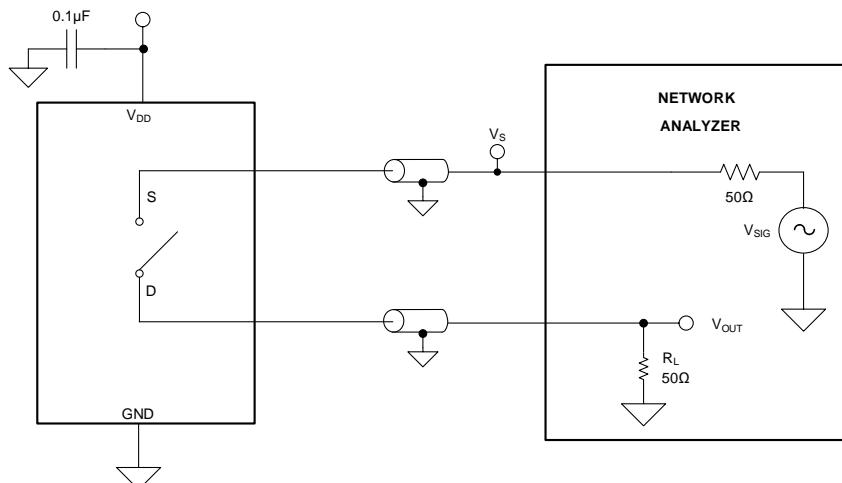

图 21. Off isolation measurement setup
Off isolation is defined as the ratio of the signal at the drain pin (D) of the device when a signal is applied to the source pin (S) of an off-channel. The characteristic impedance, Z_0 , for the measurement is 50 Ω. 图 21 shows the setup used to measure off isolation. Use off isolation equation to compute off isolation.